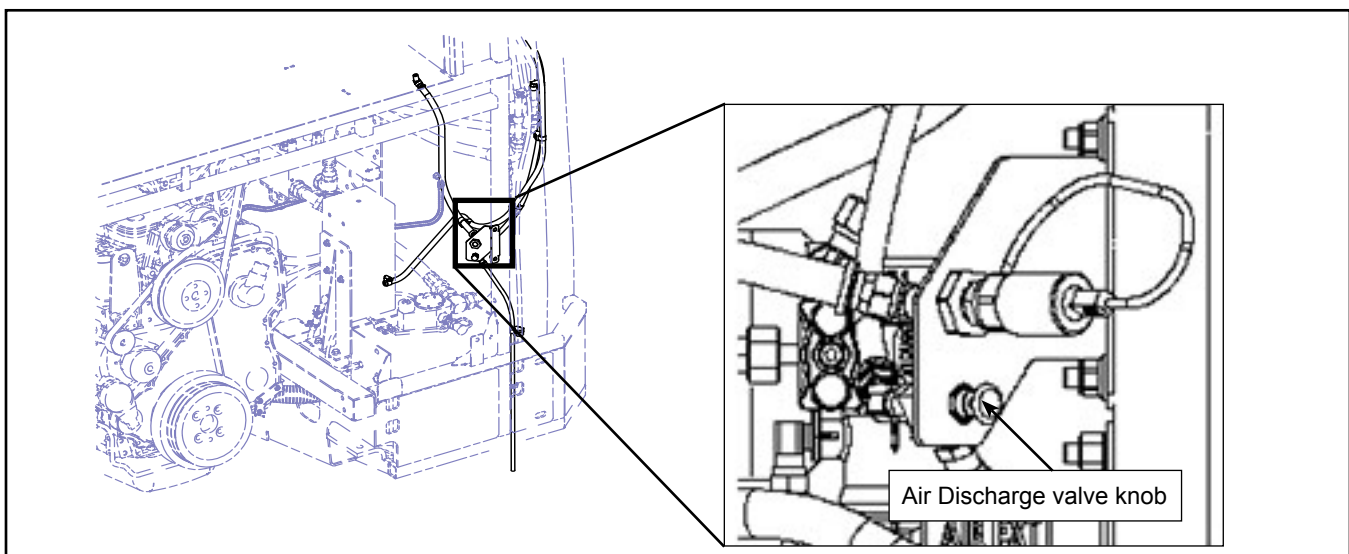

Figure 3 - Location of the Air Discharge Valve Knob in the Engine Compartment
- 1.9. Release pressure using the air discharge valve knob located on the coolant quick connect fitting bracket in the rear right portion of the engine compartment. See Figure 3.